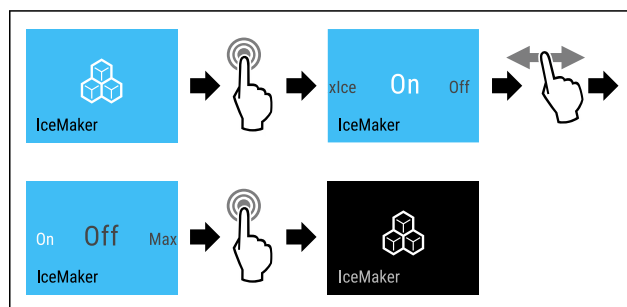

Fig. 20 Example illustration of the active IceMaker function
► Complete the steps (see Fig. 20) .